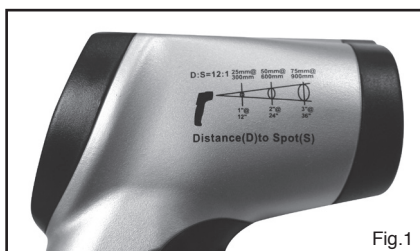

Fig.1
As the distance(D) from the object increases, the spot size(S) of the area measured by the unit becomes larger. See: Fig 1.